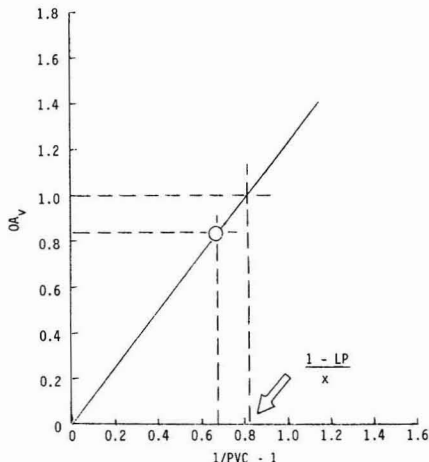

Figure 4—Locus of equal porosity for tested film
In Figure 4, the determined value of OA_v (0.819) for this pigmentation has been plotted vs 1/PVC - 1 (1/0.60 - 1 = 0.667) and a straight line drawn through the plotted point from the 0-0 origin of the graph. The mathematics are such that all formulations produced with the same latex vehicle and possessing the same optical porosity (LP) will fall upon this "locus of equal porosity", and the value of (1 - LP)/x may be read off the 1/PVC - 1 axis for OA_v = 1.0 - in this instance, a value of 0.814.